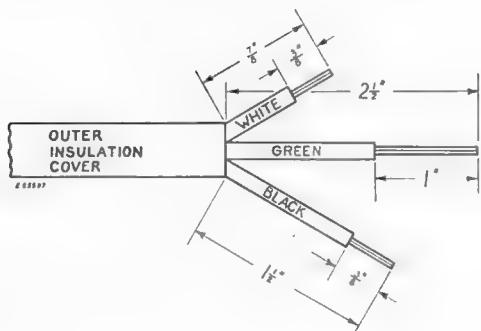

Fig. 7a. Stripping of lead for assembly of round-prong three-pin terminal.
4. Restrip lead as shown on Fig. 7a.